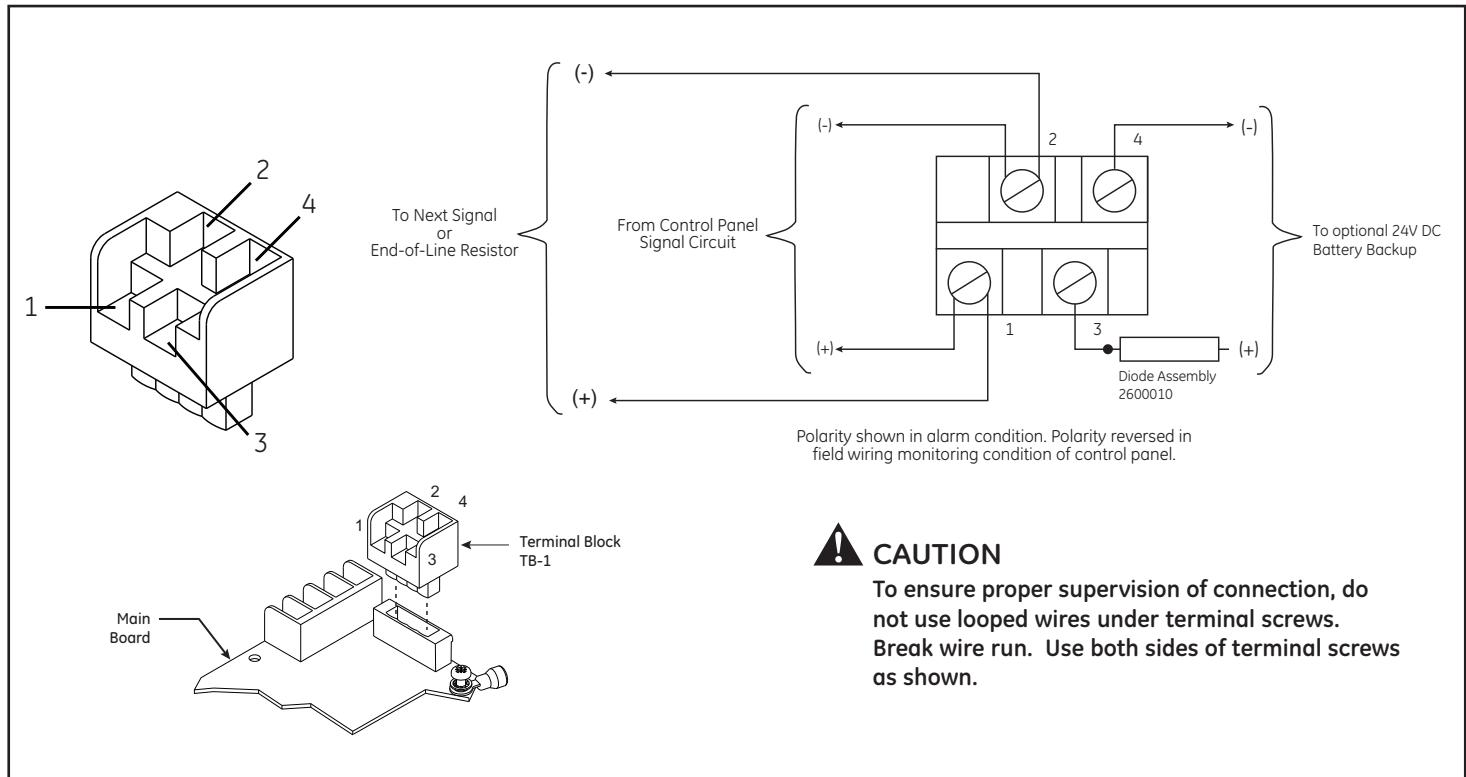

Figure 3. Wiring to Terminal Block TB1
To ensure proper supervision of connection, do not use looped wires under terminal screws. Break wire run. Use both sides of terminal screws as shown in Figure 3.
- b. Connect incoming power to TB1 terminals 1 and 2 on the main board as shown in Figure 3. Polarity must be observed.
- c. Connect wires leading to next signal or end-of-line resistor to TB1 terminals 1 and 2 on the main board as shown in Figure 3. Polarity must be observed.
- d. Optional. Connect external 24V DC battery (not supplied) in series with separate diode assembly part 2600010 (supplied) to TB1 terminals 3 and 4 on the main board as shown in Figure 3 and marked on the diode assembly.
**NOTE:** Terminal Block TB1 can be unplugged from the main board to complete wiring as shown in Figure 3.